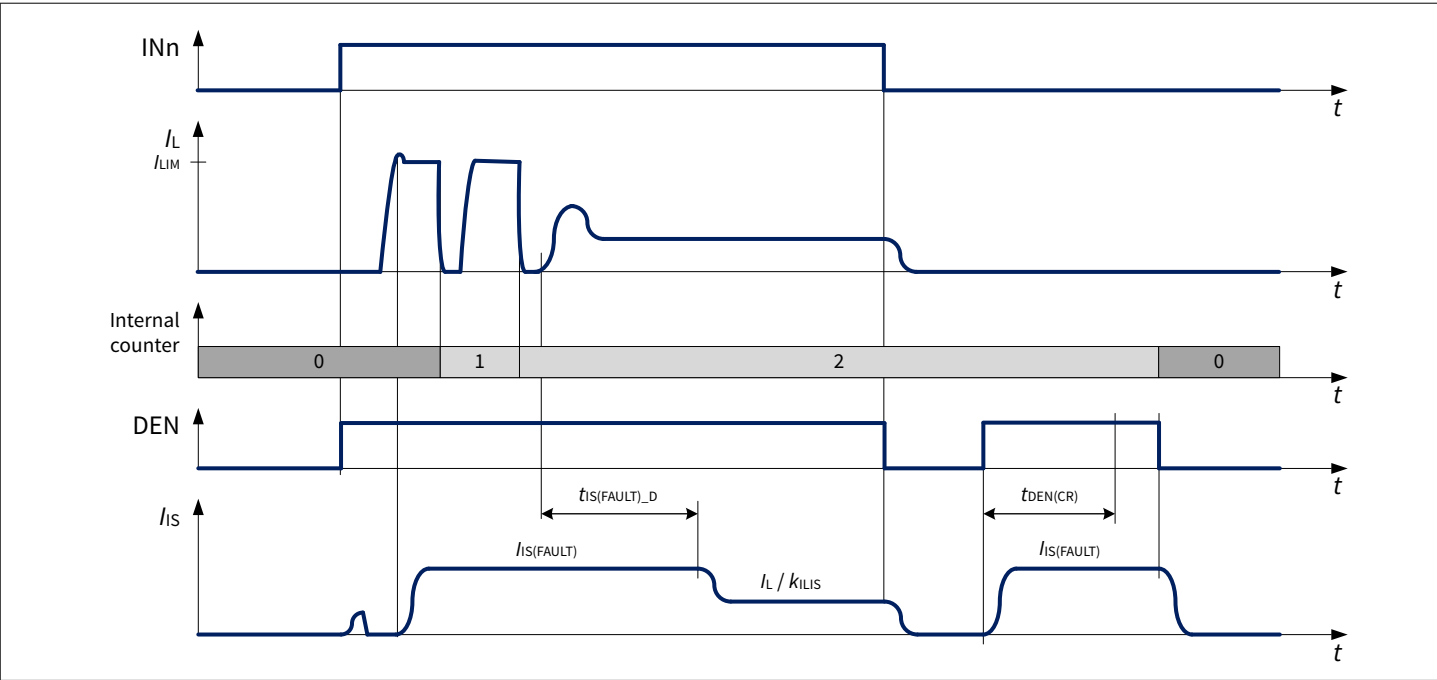

Figure 28 $I_{IS(FAULT)}$ at load switching
- If the channel is ON and the number of restarts is less than “ $n_{RESTART(CR),TYP}$ ”, the current $I_{IS(FAULT)}$ is provided for a time $t_{IS(FAULT)_D}$ after the channel is allowed to restart, and thereafter $I_{IS} = I_L / k_{ILIS}$ (as shown in Figure 28). During a restart cycle the current $I_{IS(FAULT)}$ is provided each time the channel diagnosis is checked.